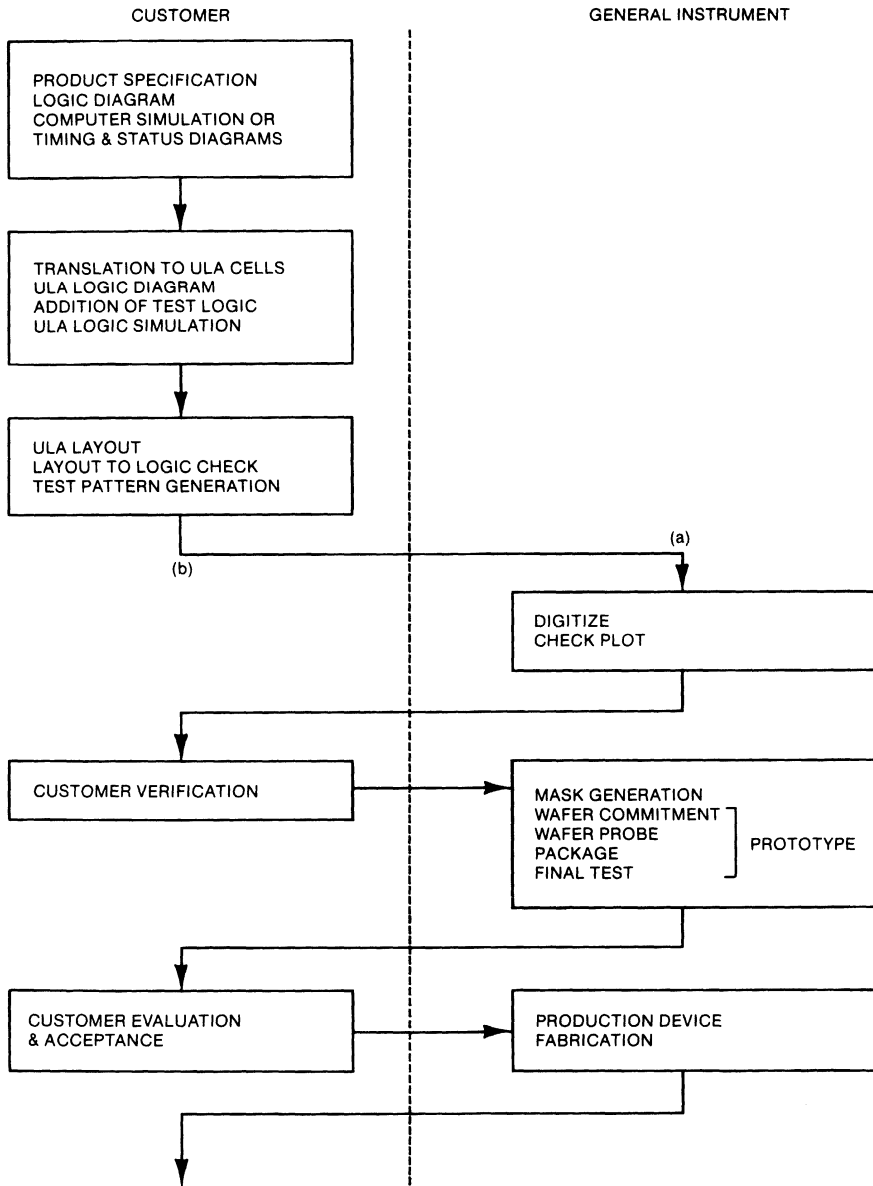

Fig. 10 DESIGN INTERFACE
- III) Customer takes design through layout. General Instrument's involvement begins at the Digitization stage prior to mask generation. Figure 10 defines this design route.